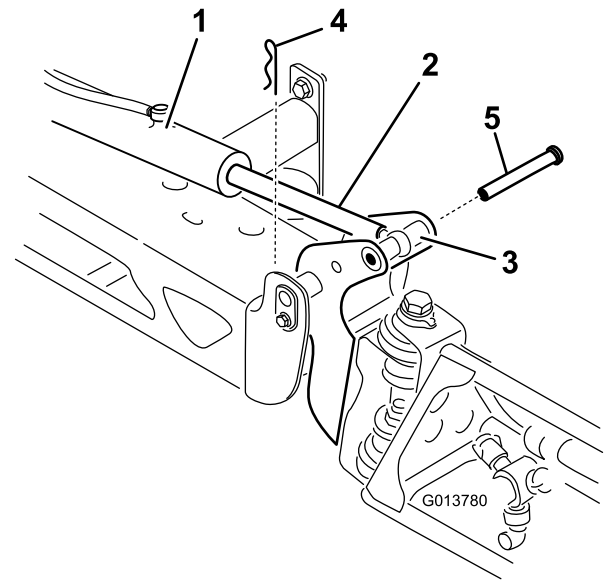

**Figure 64**
2. Pump grease into the bearing or bushing at each fitting (Figure 64).